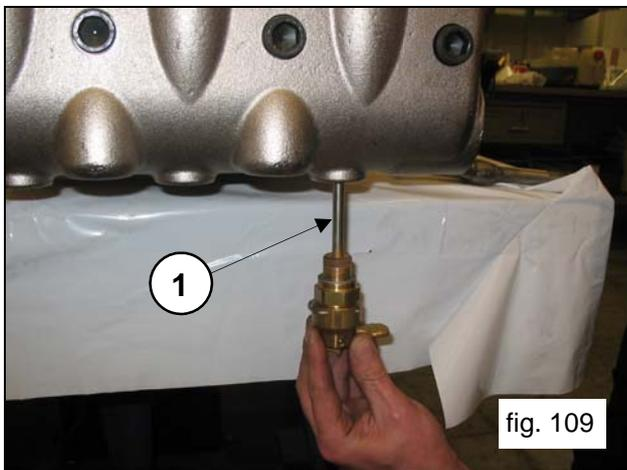
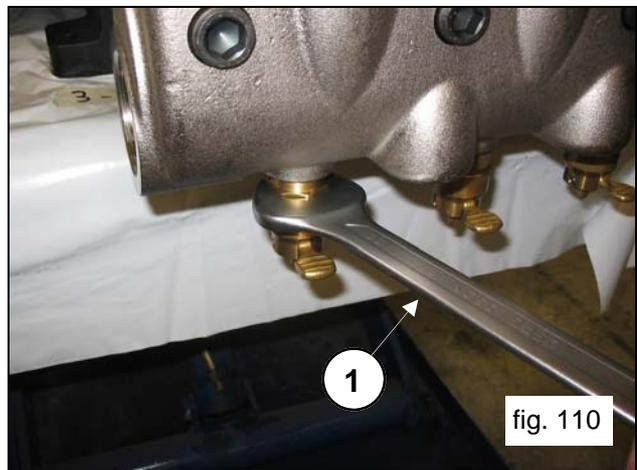

fig. 109
fig. 110
Apply the valve opening devices (pos. ①, fig.109) and fasten them using a 30 mm wrench (pos. ①, fig.110).